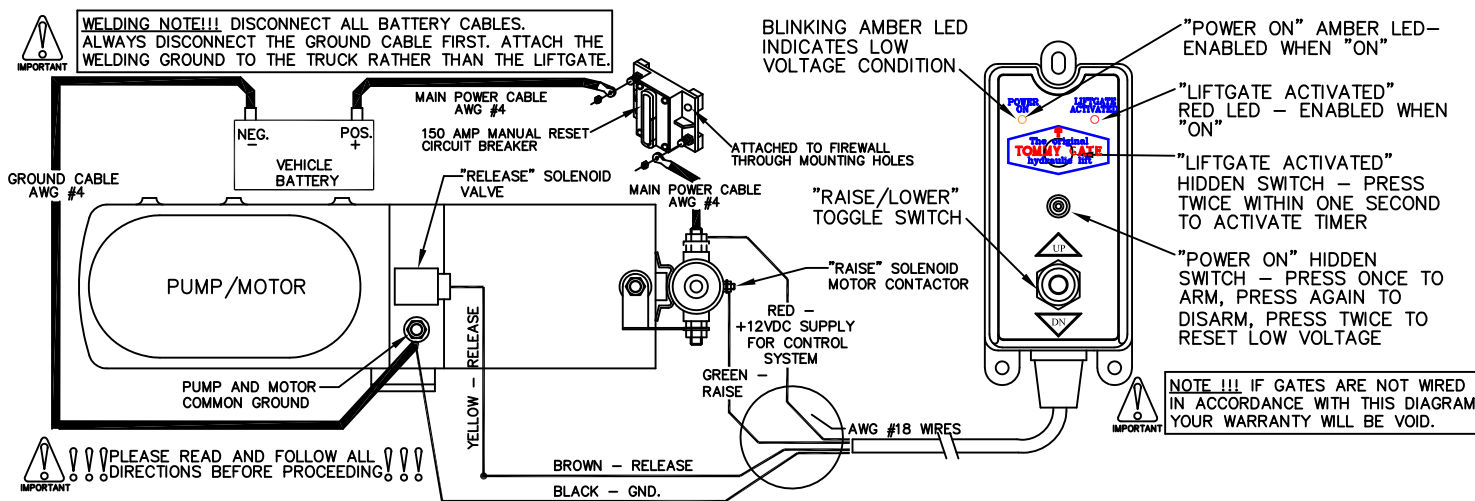

Figure 14: Wiring diagram.
2. **Push** the hidden "Power On" switch (Figure 14). The amber "Power On" LED will illuminate.
3. **Pull** the power cable (coiled up in the liftgate mainframe) carefully through the strain relief. Leave approximately two (2) inches of slack inside the liftgate mainframe.
12. **Connect** the circuit breaker and battery as outlined in the *Tommy Gate Recommended Electrical Wiring Guidelines* and wiring diagram (Figure 14).